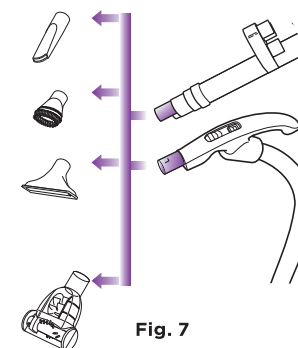

Fig. 7
- 2 Firmly push the desired accessory onto the end of either the flexible hose handle or the telescopic tube to clean hard to reach places. (Fig. 7)